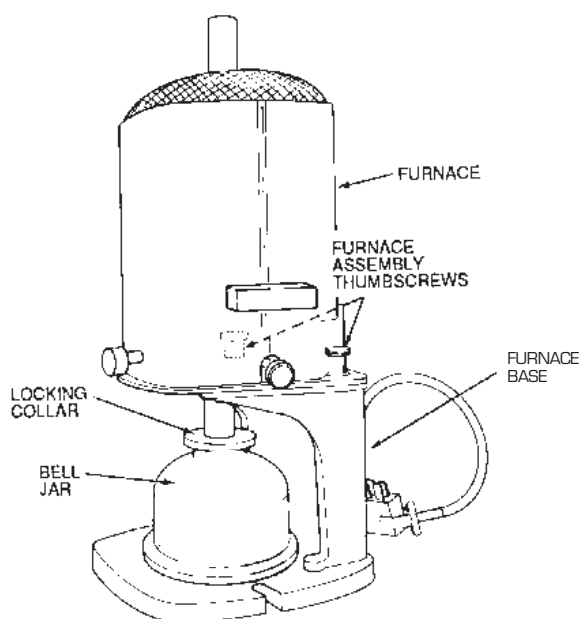
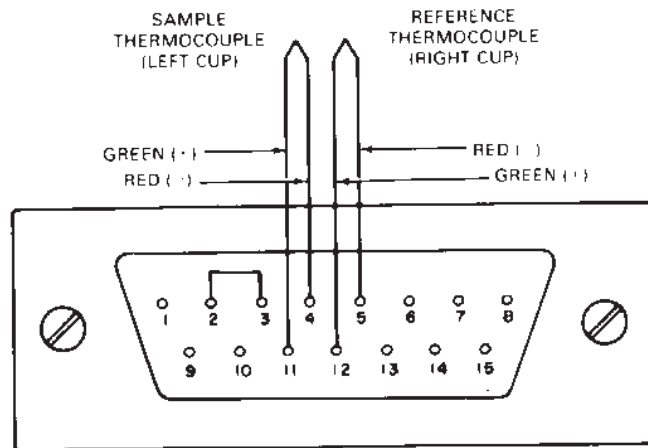

Figure 2.13
Figure 2.17
1. Remove the furnace from the cell by unscrewing the two furnace assembly thumbscrews (see Figure 2.13).
11. Pull off the connector cover (see Figure 2.13) and remove, but *do not discard* the insulation from around the connectors. Using long-nosed pliers, plug the thermocouple wires into the connector pins as shown in Figure 2.17. Repack all of the insulation around the connector pins, and replace the connector cover.